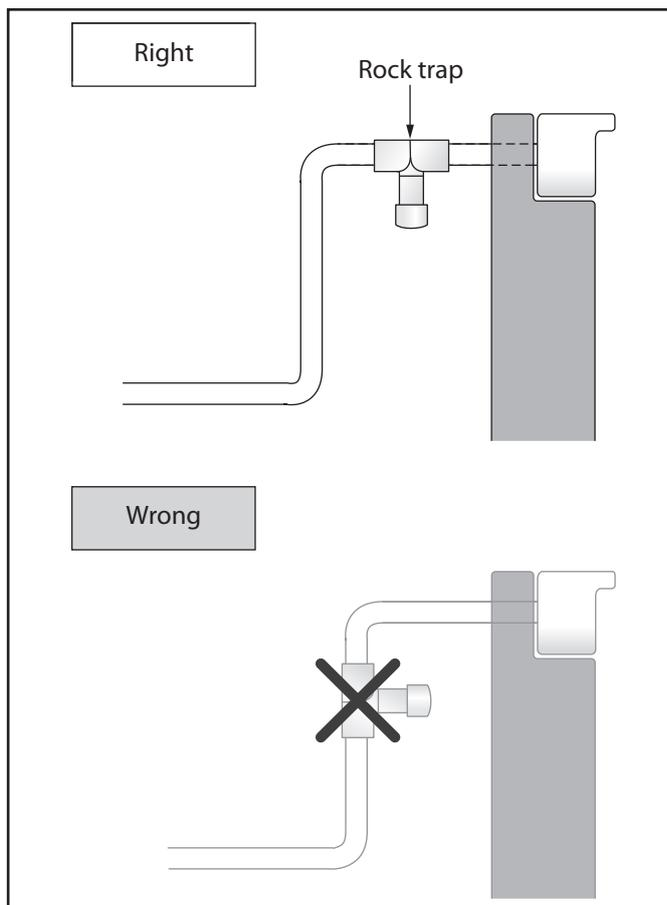

Figure 21. Rock Trap Debris Chamber Installation
2. Rock Trap must be installed with debris collection chamber pointed DOWN. See Figure 21.